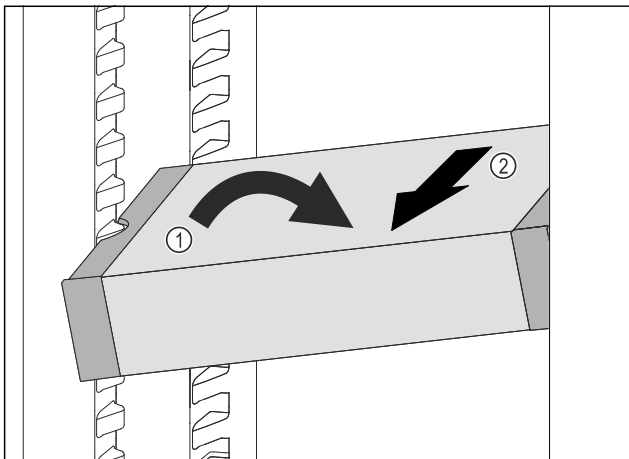

Fig. 143
- ▶ Set VarioSafe in refrigerator compartment at an angle. Fig. 143 (1)
- ▶ Take VarioSafe out to the front. Fig. 143 (2)